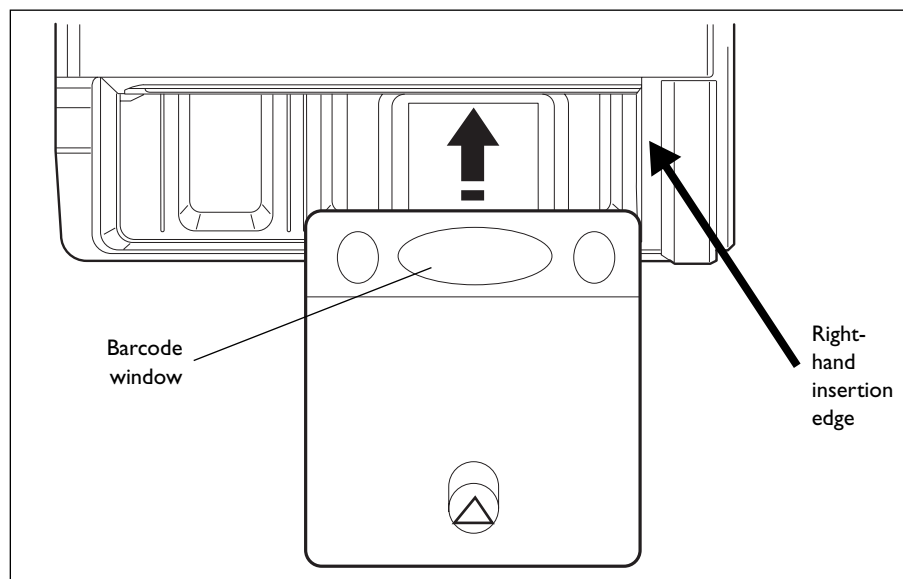

Fig. 6.11 Correct: cassette against insertion edge
- 1 Turn the cassette over with the front upwards so that the barcode window is facing upwards and to the front (see Fig. 6.11).